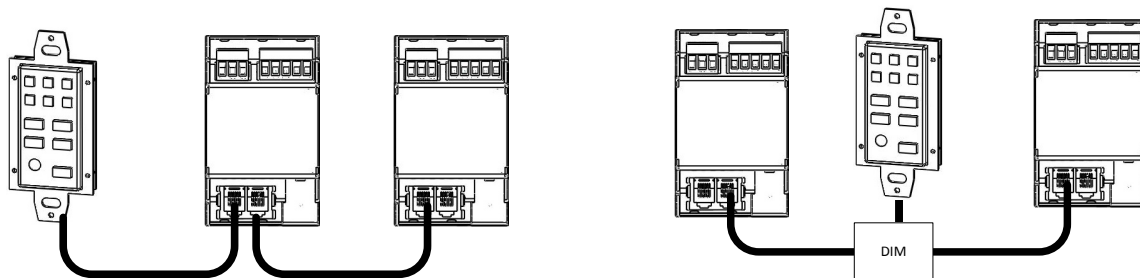

Figure 8
4.4 CS-Bus Wiring Directions (Multiple Controllers to a Single Interface Device). (See Figure 8 below.)